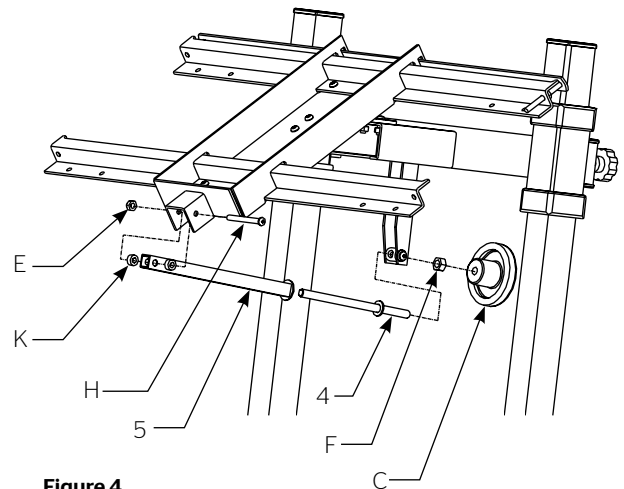

Figure 4
8. Attach tilt control mechanism to Top Assembly and Zee-Bar Assembly. See Figure 4.